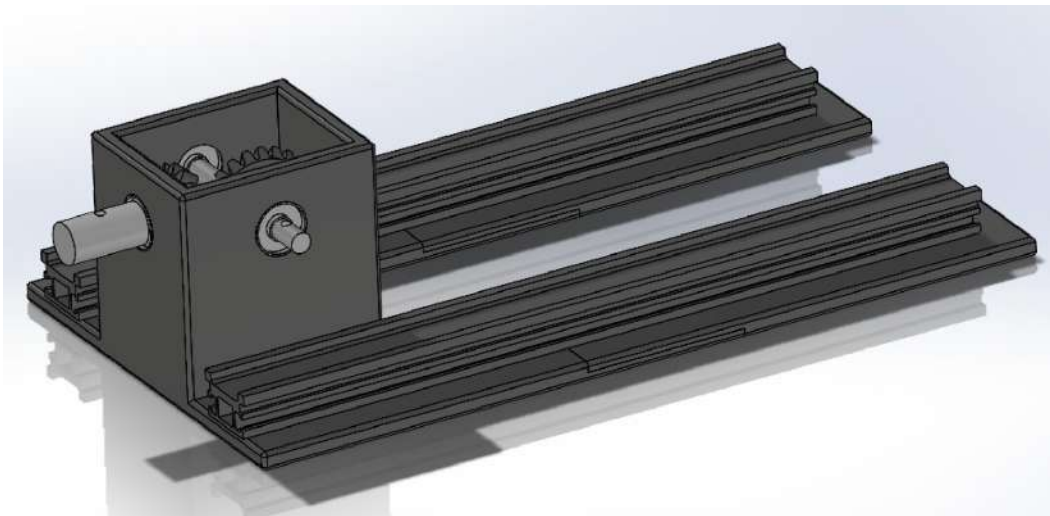

Figure 15: Adding linear rails to assembly
- Using the same six M5 screws to connect the gearbox to the gearbox extensions, connect two linear rails as illustrated in figure 15.